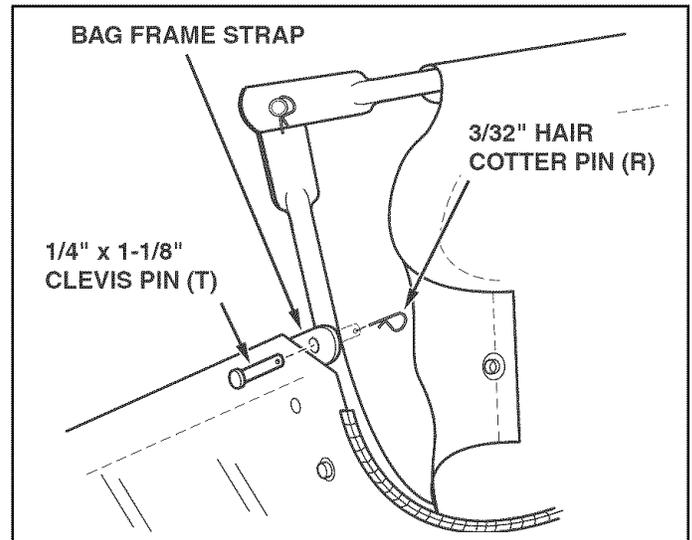

FIGURE 17
STEP 12: (SEE FIGURE 17 AND 18)
- Assemble the bag frame strap to the lower hopper side tubes using two 1/4" x 1-1/8" clevis pins (T) and 3/32" hair cotter pins (R).